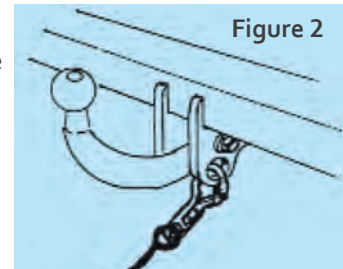

Figure 2
b) Attach the clip directly to the designated point (Fig. 2). This alternative must be specifically permitted by the trailer manufacturer since the clip may not be sufficiently strong for use in this way.